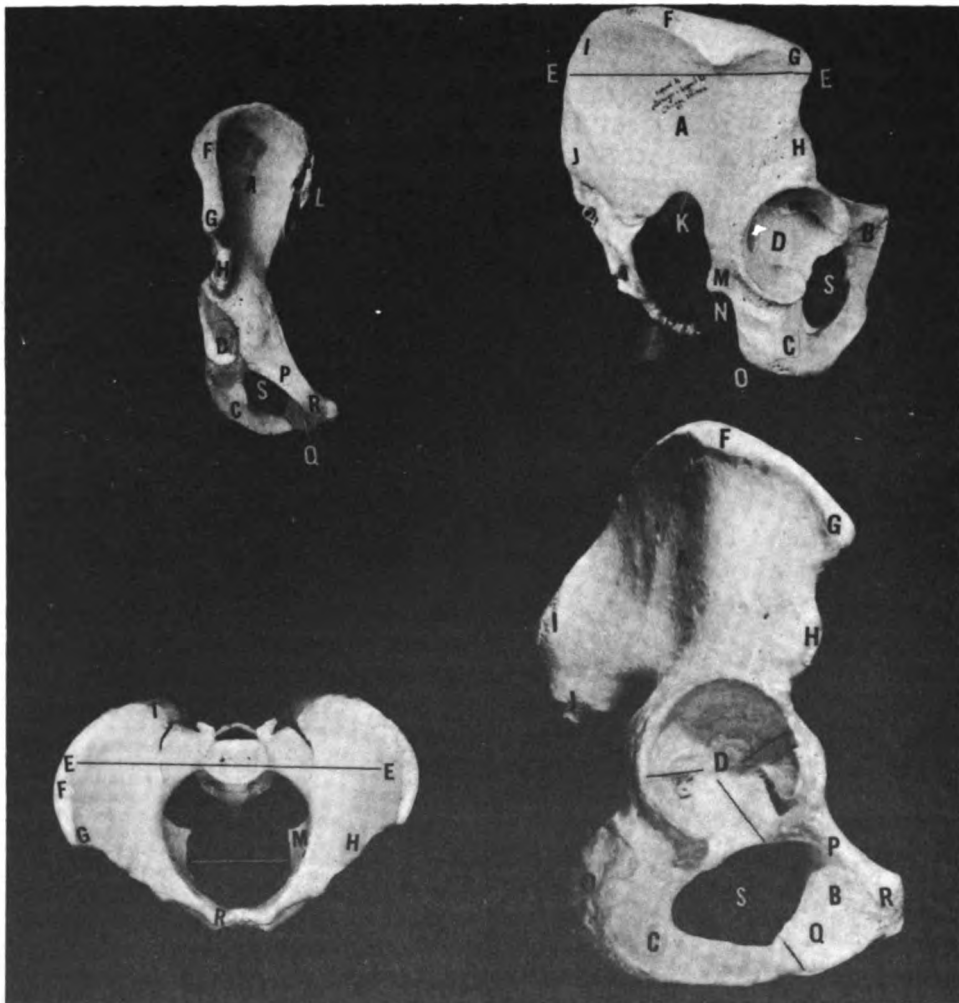

Figure 4-15 The Innominate Bone - AP, Lateral, Superior and Lateral Oblique Views
The Innominate Bone. The innominate bone of the pelvis is actually made up of three different bones. These bones are the ILIUM (A), THE PUBIS (B) AND THE ISCHIUM (C). These bones ossify separately and then unite at the hip joint to form the ACETABULUM (D) in which the head of the femur sits (Figure 4-15).